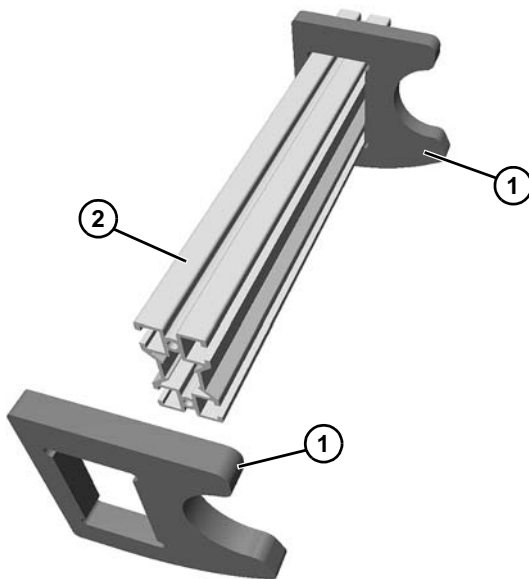

Figure 98
14. Remove gap filler plates (**Figure 98, item 1**) from crossmember (**Figure 98, item 2**).